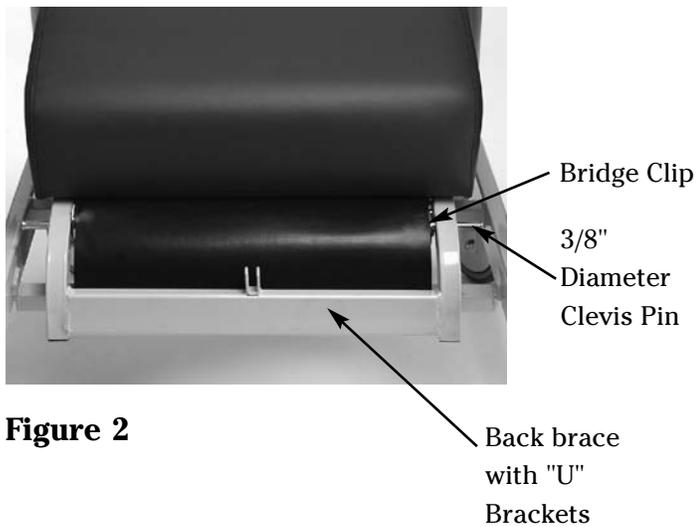

Figure 2
Figure 2 shows the location of three (3) clevis pins, two (2) ring cotter clips and one (1) bridge clip. Remove all above hardware from the back brace.